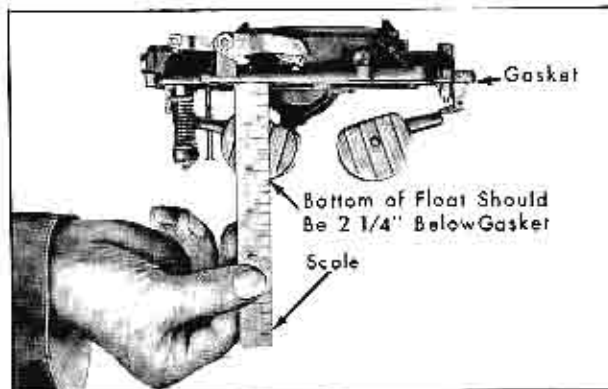

Fig. 12-17 Float Drop Adjustment
1. Hold bowl cover in an upright position and measure the distance from the bottom of the cover gasket to the bottom of the floats. This distance should be 2-1/4 inches, as shown in Fig. 12-17.